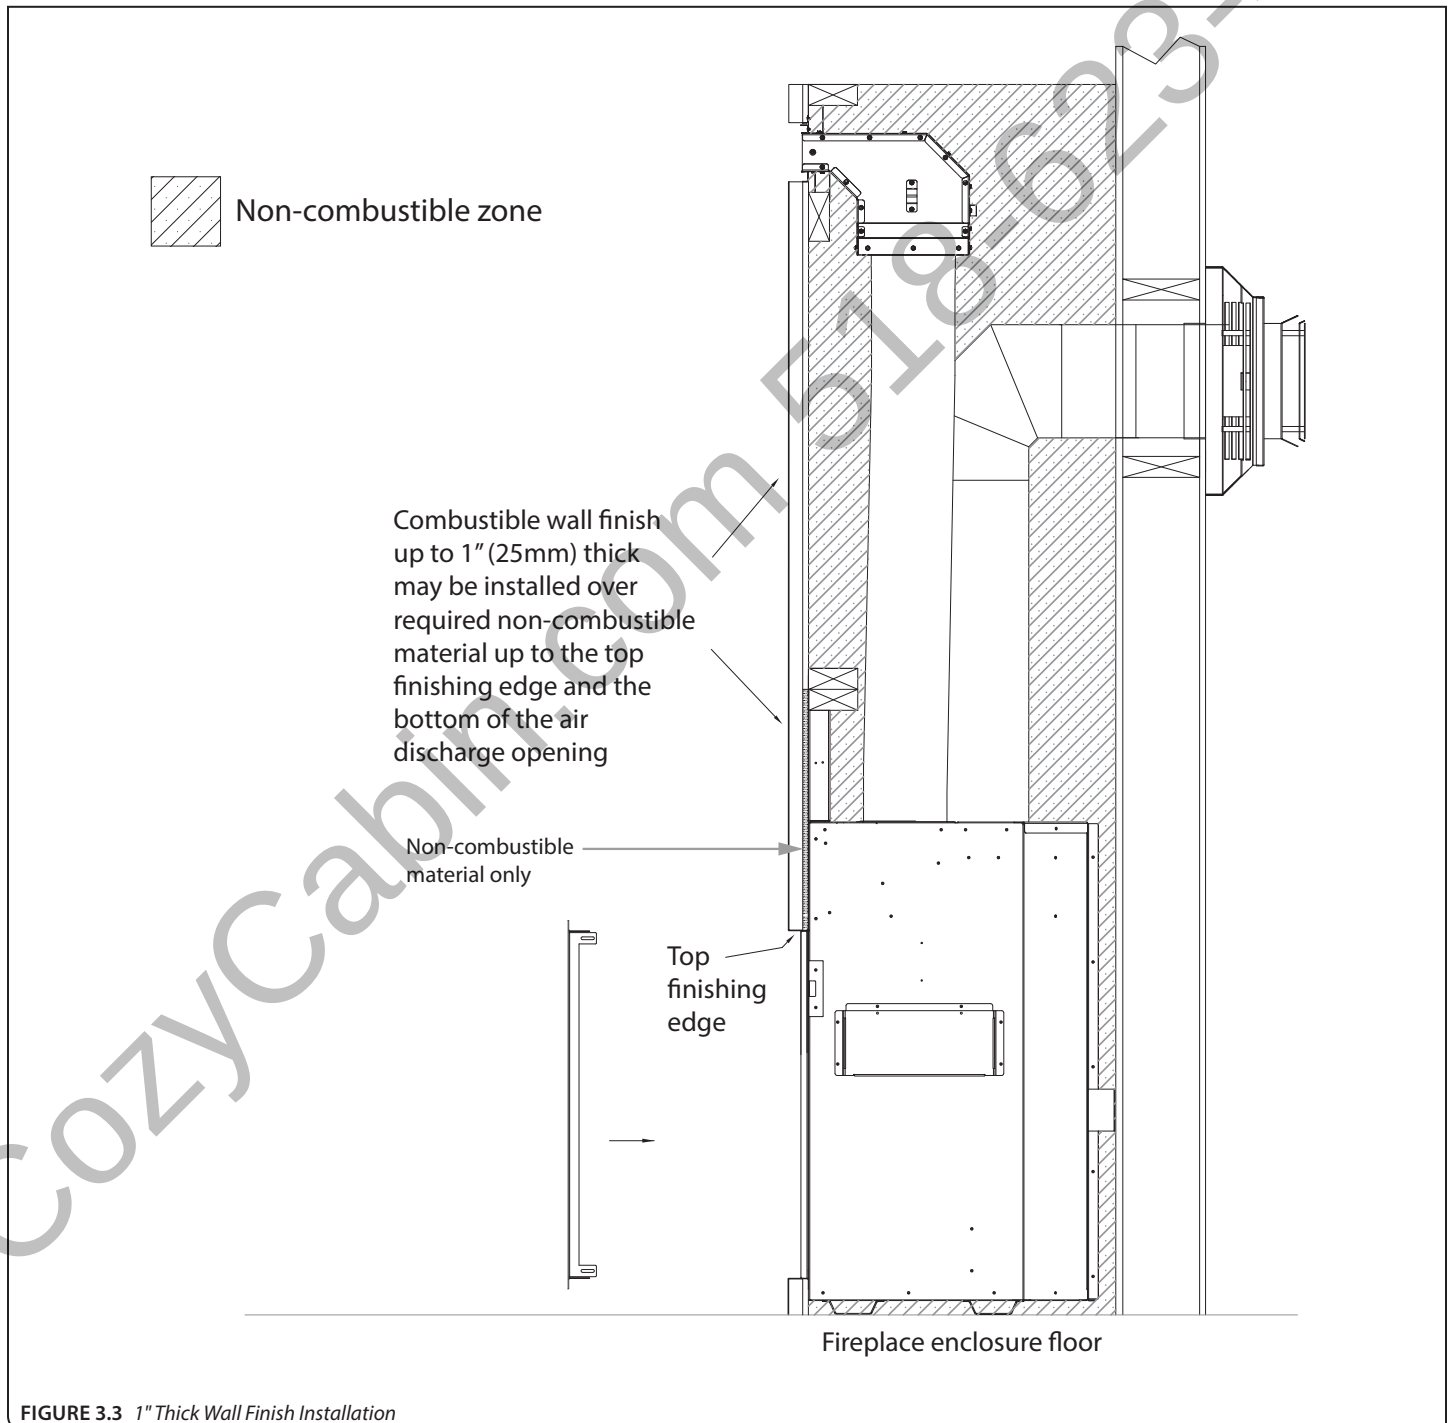

FIGURE 3.3 1" Thick Wall Finish Installation
- **FIGURE 3.3** shows installation of combustible wall finish up to 1" thick. This combustible material goes over any required non-combustible materials as shown in **FIGURE 3.1** on page 11.